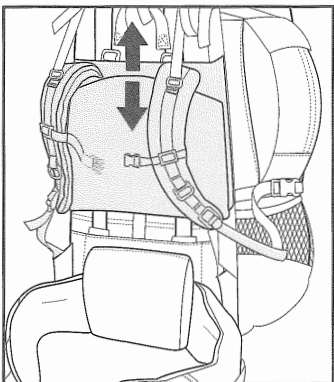

Figure 2F
- II. Slide the shoulder panel into the correct position by pulling up or down on the shoulder straps and backpanel (Figure 2F).